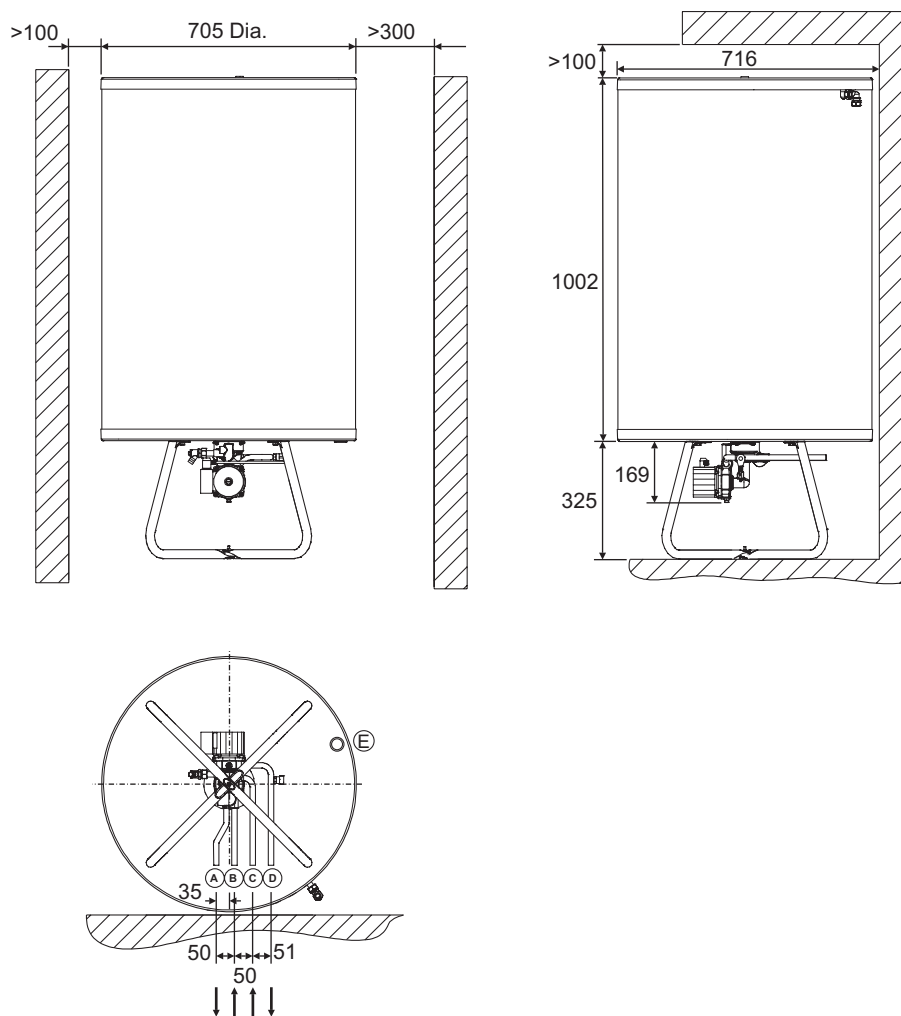

Fig. 5
3.4 SOLAR CYLINDER INFORMATION - Fig. 5
The dimensions of the cylinder and clearances required for servicing are shown in Fig. 5.
The connections at the bottom of the cylinder are shown in Fig. 5.